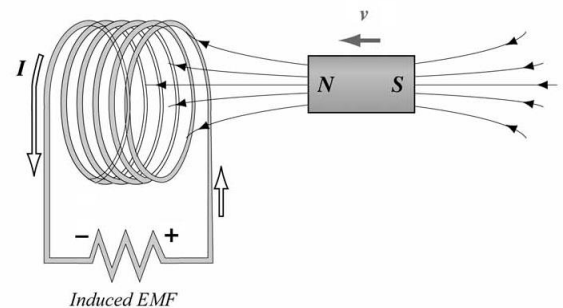
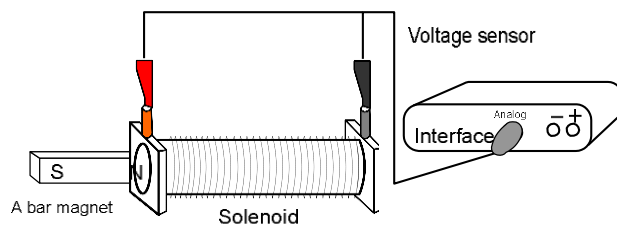

Figure 2
Figure 3
It is important to note that a stationary (not moving in space or time) magnetic field will not create a current by inducing a voltage; only a magnetic field that is changing with respect to time or has motion relative to a particular wire configuration is able to generate a current within that wire. This is known as Faraday's law, and for a wire coil with N loops; this is illustrated in Figure 2 and can be expressed mathematically as:
1) Setup the solenoid with a voltage sensor and magnet as shown in Figure 3, open a new experiment in DataStudio, select a voltage sensor for the appropriate channel, and set the sample rate to 200 Hz, as shown in Figure 2. Open a graph that displays voltage vs. time and maximize the graph's view window.
3) Clear all data from the graph, hold the magnet by covering the "S" with your thumb (like a wand), Click Start again, *carefully* insert the "N" end of the magnet into the side of the solenoid with the positive (red) voltage lead, as shown in Figure 3, then remove the magnet from the solenoid *very* quickly. Be sure to insert the magnet into the solenoid as far as you can, and remove it as quickly as you can. Then flip the magnet so that you are holding the "N" side, repeat this process, and click Stop. Enlarge and enhance the view of your data by adjusting the axis locations and scales so that the relevant data takes up the whole graph window, and then print this graph.
4) Flip the polarity of the voltage sensor moving the red and black leads or simply by turning the solenoid so that the black voltage lead is on the left in Figure 3 above. Precisely repeat step 3 with this new voltage polarity and print the second graph too.